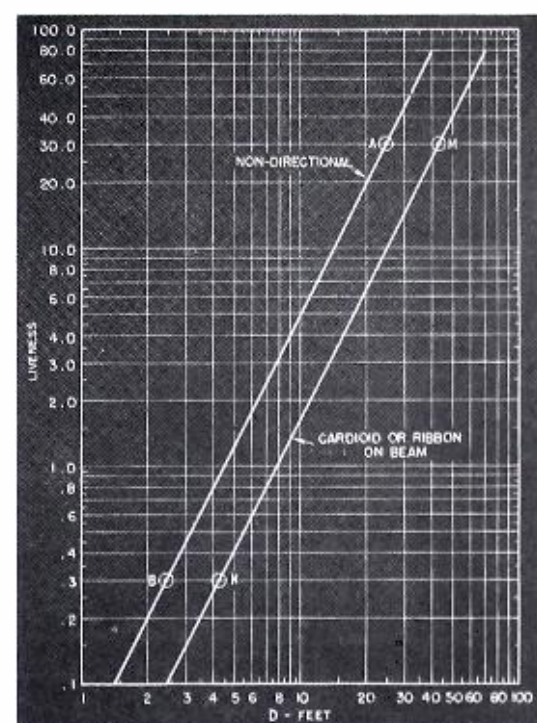

Figure 5 — Typical chart used for positioning General and Accentuation Microphones in active studios.
Where studios are in active use, a set of curves as shown in Figure 5 may be prepared. To aid you in preparing such a chart the following typical case is worked out in detail.
Plot these two points (A and B of Figure 5) and connect them with a straight line. From this chart the distance D corresponding to any desired value of liveness may be obtained for a nondirectional microphone.
To obtain the plot for bidirectional or cardioid microphones proceed in a similar manner letting $G_p = 3$. Then we obtain the points M and N, Figure 5. Connect these with a straight line.
4. Determine the distance D from Equation (2) or from the studio chart typified by Figure 5. If you are using this microphone for accentuation of the string section or any other group of artists, D represents the distance from the microphone to the nearest artist in that group.